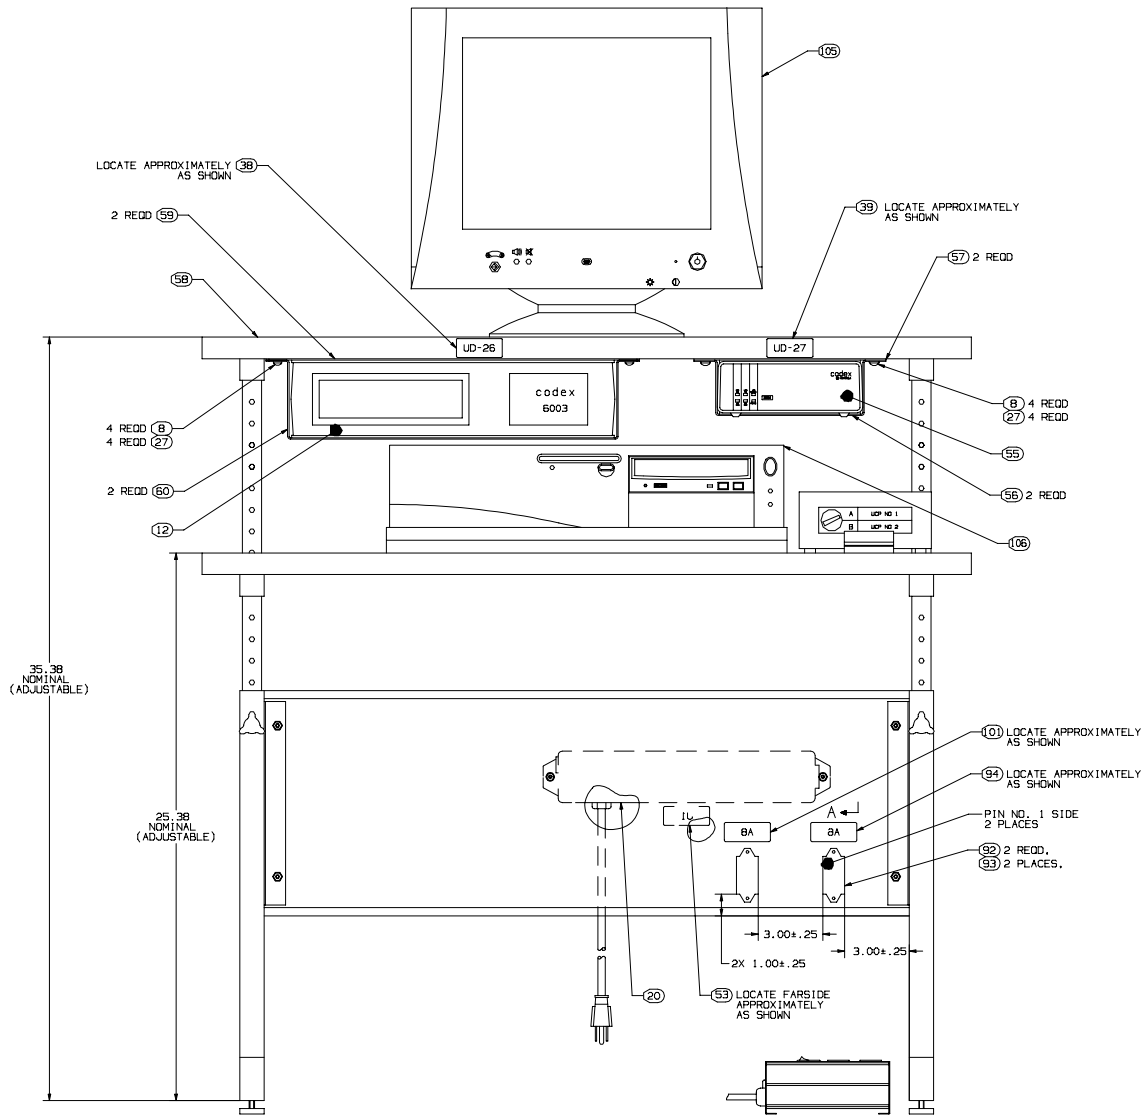

Figure 8 CP Tango AB Configuration
a. Refers to figures 8, 9 and 10.
- (1) At the punch block, locate the phone lines to the RPG and to Yongsan.
- (2) Using standard telephone wire (not supplied), jumper the 4-wire phone line from the RPG punch block to the Yongsan punch block.